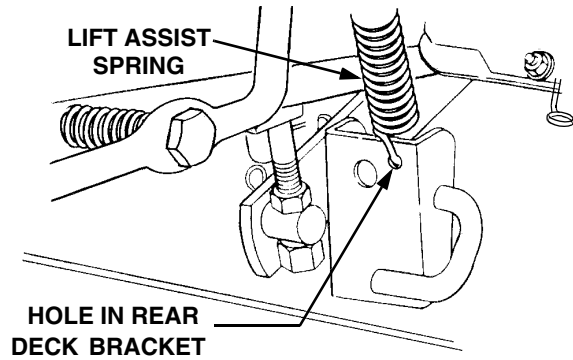

**Figure 40**
17. While holding the belt in position, rotate the deck idler arm lever into its stop bracket to tension the PTO belt (Refer to Figure 40). Make certain the PTO belt is properly positioned in the PTO clutch pulley and both lower front pulleys. Reposition if necessary.